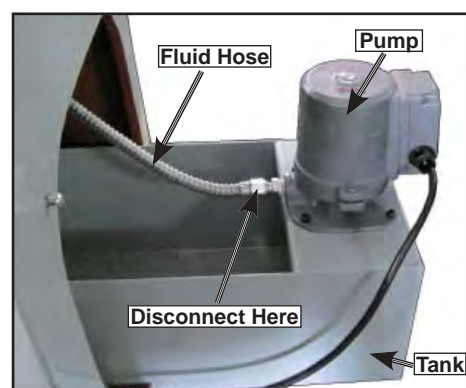

Figure 83. Cutting fluid pump and tank.
2. Remove the vented cover and slide the tank out, as shown in Figure 83.